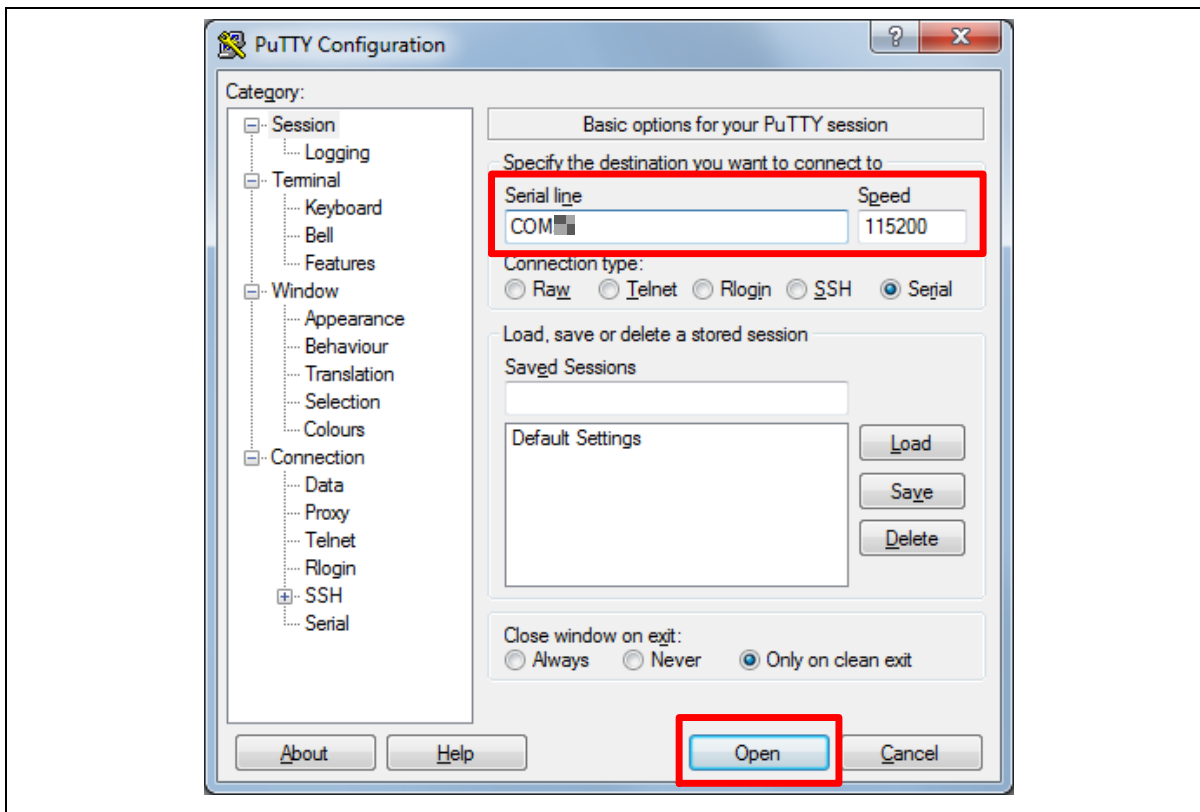

Figure 4-6 PuTTY Session Setting
- Open a serial port terminal, PuTTY for example, to print out debug message. Set the speed to 115200. Figure 4-6 presents the PuTTY session setting.